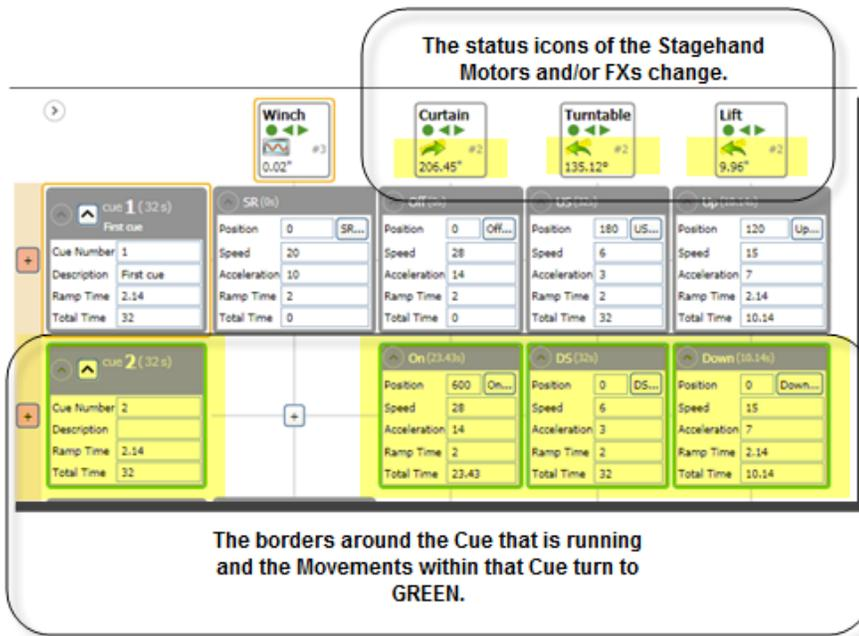

Figure 329
1. In the **Cue Grid**, the border around the Cue that is running and motor movements within the running Cue change to green and the Stagehand status icons change (Figure 329).